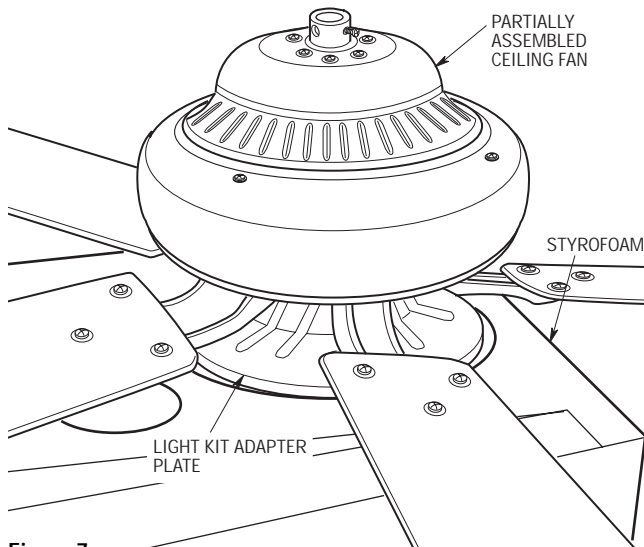

Figure 7
- 11. Turn the top half of the styrofoam upside down. Carefully turn over the partially assembled ceiling fan and place it in the styrofoam hole, being careful to rest the fan on the light kit adapter plate (Figure 7).